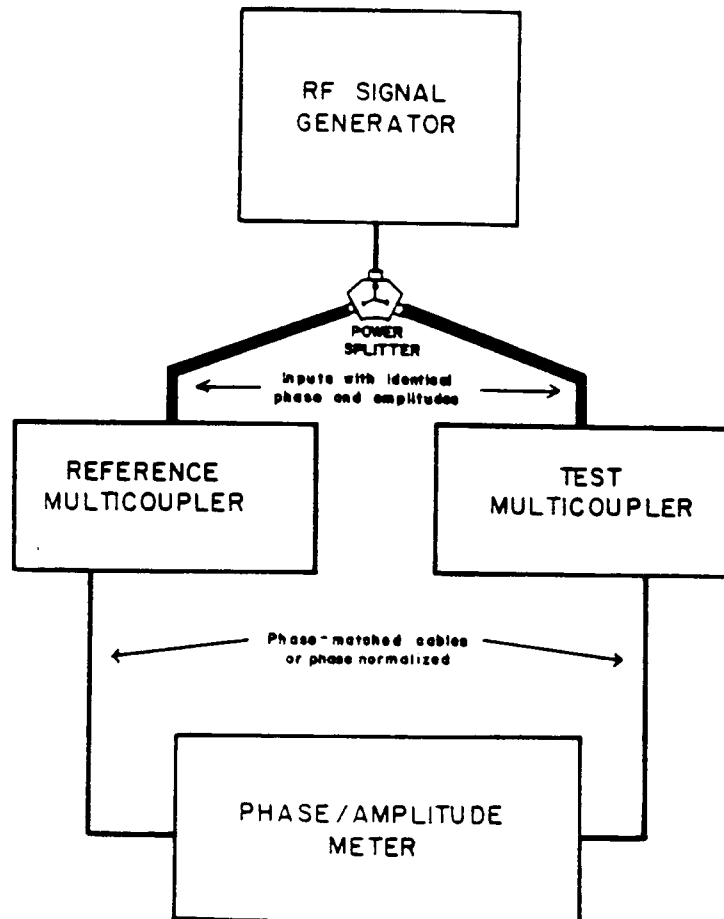

FIGURE 5-2. General Test Block Diagram.
**5.2.4** Multicoupler testing and phasing procedures described in this chapter utilize the general test configuration shown in Figure 5-2. A swept-frequency HF signal (2-32 MHz) or CW test signal is distributed to two multicouplers by a power splitter and phase-matched or phased-normalized cables. The multicoupler outputs are then connected to phase/amplitude measurement test equipment through these cables. The test equipment measures the relative phase and amplitude differences between the test and reference multicouplers.